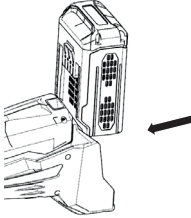

Fig. 16
1. Insert the battery pack into the socket, until you hear a clear "click" sound (Fig. 16).